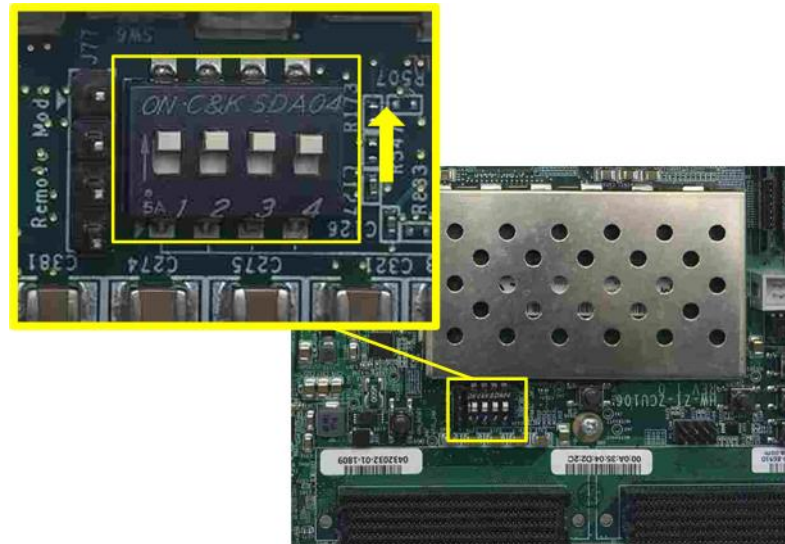

Figure 2-1 SW6 setting to configure PS from JTAG on ZCU106
- 2) For ZCU106 board, set SW6=all ON to configure PS from JTAG, as shown in Figure 2-1.